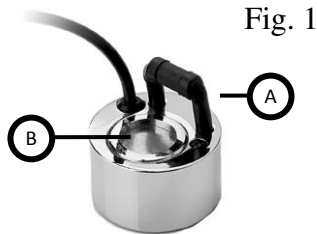
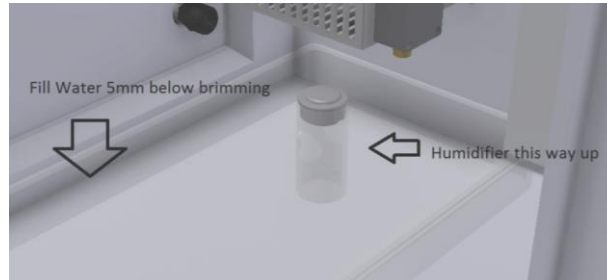

Fig. 1
Fig. 2
4. Fill the water tray with **COLD, clean tap water** up to 5-10mm below brim. (Using soft or boiled water (once cooled down) will help prolong the life of the fan) Insert the humidifier unit (fig.1) into the water near to fan (fig.2).